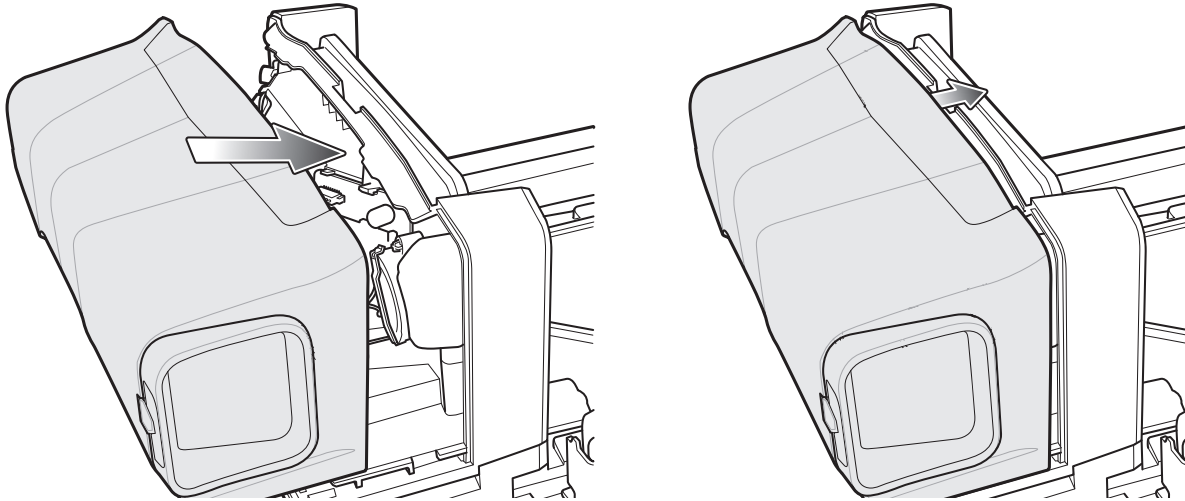

Figure 7-4 Replacing the MP70XX Tower Cover with MX101
15. Replace the MP70XX tower cover with the MX101 tower cover kit by sliding it onto the back housing and clicking it into place (see Figure 7-4 on page 7-3).